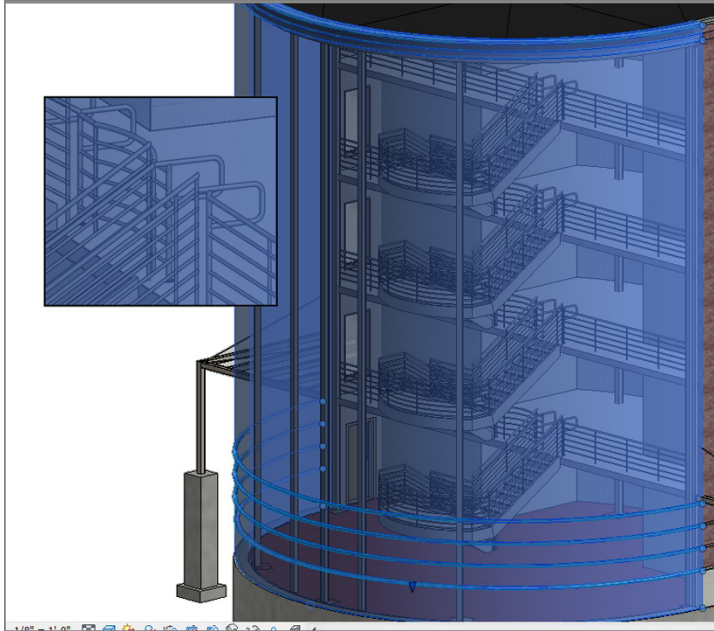

FIGURE 10.33: Check out your awesome stairs!
8. Go to a 3D view, and select the radial brick wall to make it transparent. Check out your stairs, as shown in Figure 10.33.